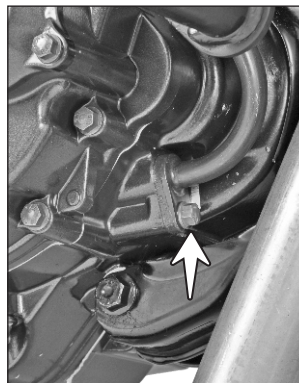

Fig. 2.59A
- Remove the hexagonal flange bolt (M6x20 - 1 no.) mounting the pipe complete inlet with the crankcase assembly R. (Fig. 2.59A)